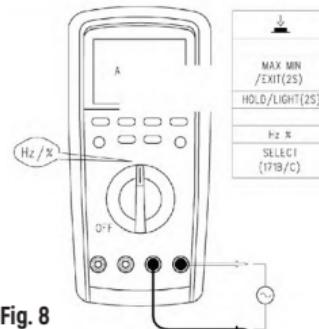

Fig. 8
6. Frequency/duty cycle measurement (see Fig. 8)